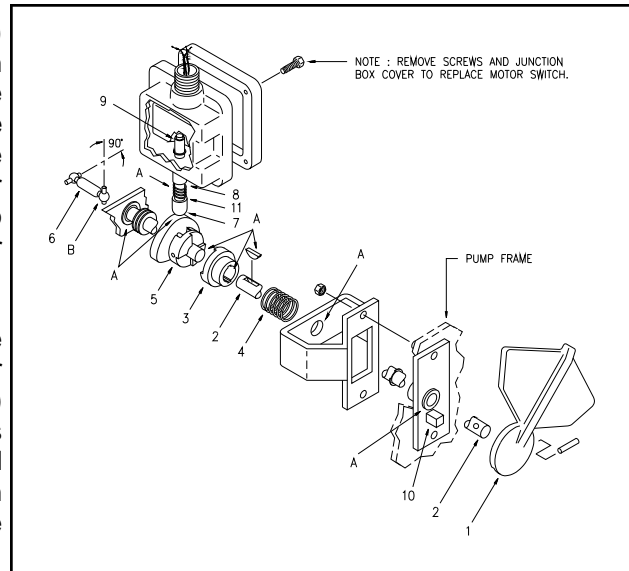

Figure 1
Once the computer is reset, turning the handle (1) clockwise rotates the shaft (2), engages the clutch (3-5), and rotates the universal link (6). The clockwise rotation of the universal link activates the computer to its ON position. At the same time, the cam lobe of the clutch half (5) rotates to its smaller diameter side. This allows the switch shaft (9) to be in its down position which activates the motor switch to its ON position. See Figure 1.
Lubricate all points marked "A" in Figure 1 with a light weight engine oil twice a year.